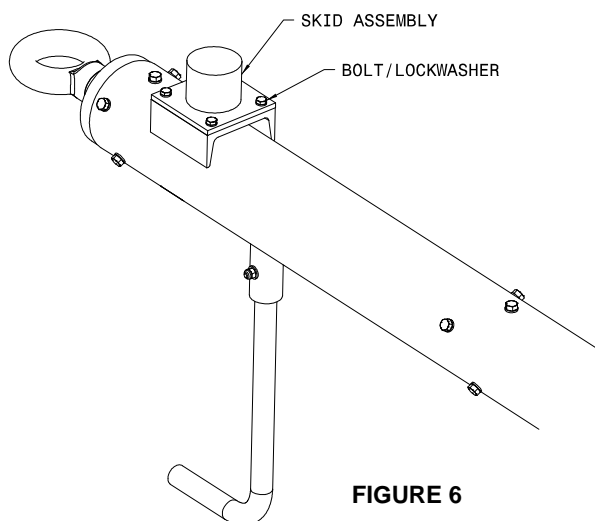

FIGURE 6
Remove the (4) bolts and lockwashers holding the skid assembly to the towbar. Discard the bolts, lockwashers, and skid assembly. **Reference Figure 6.**